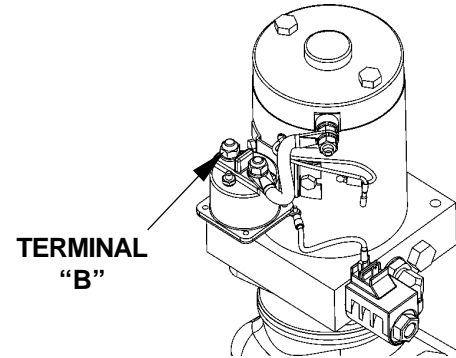

FIG. 41-1
1. Use voltmeter to verify that power is being supplied to Solenoid Terminal "B". Recharge the battery if voltmeter indicates less than 12.6 Volts (**FIG. 41-1**).